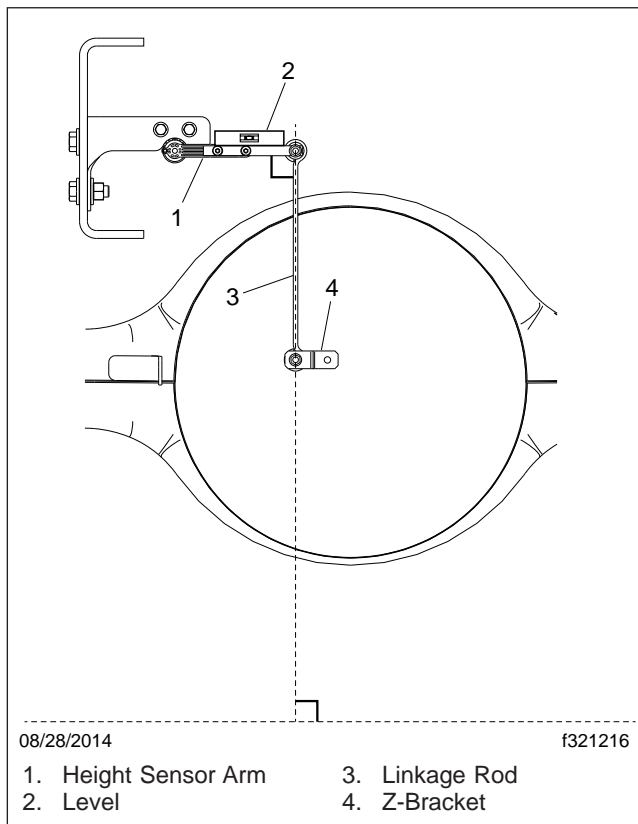

Fig. 3, Correct Position of the Arm, Linkage, and Z-Bracket
7. Check the position of the height sensor arm and linkage rod. See Fig. 3. Check that the arm is level using a level, then use a plumb bob or carpenter's square to check that the linkage rod is at a 90° (right) angle to the level sensor arm.